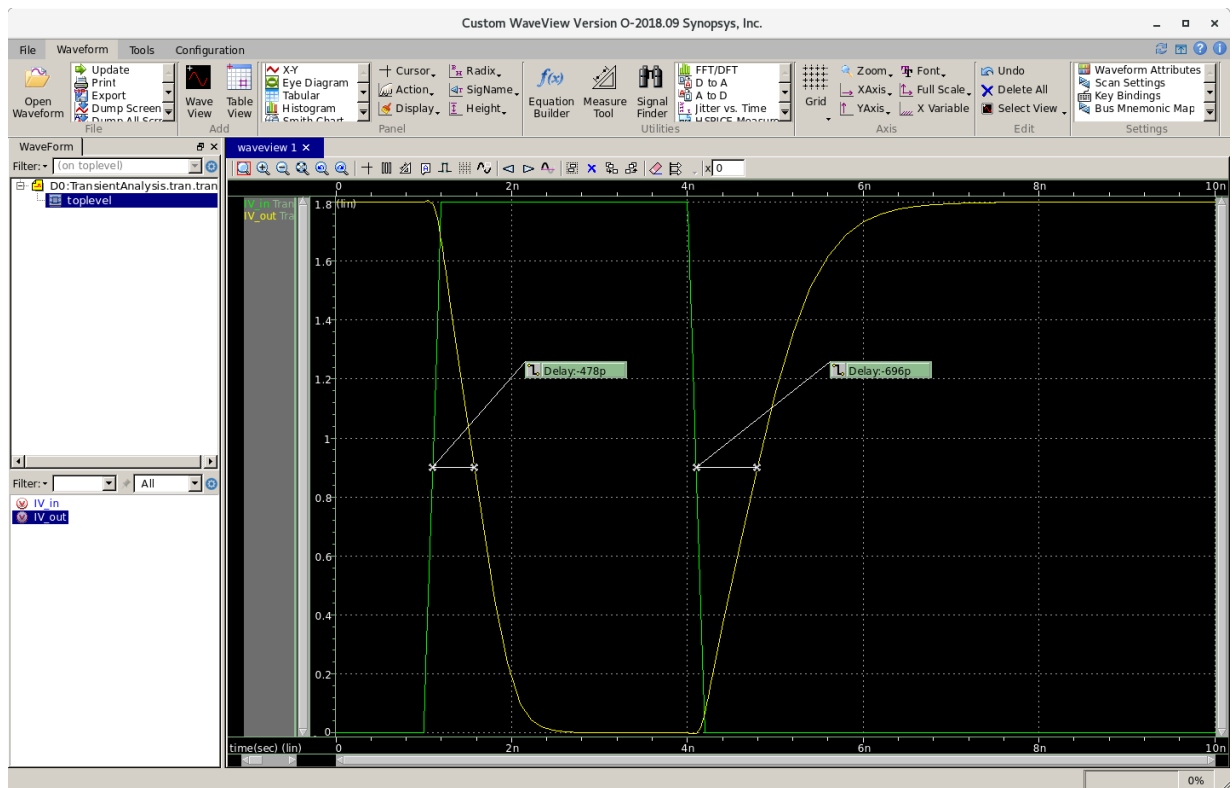

Figure 4. Measuring delays from Waveform window
- In the left hand side panel, go to Time Domain > Delay. Be sure “Signal” and “Ref Signal” are selecting the signals you are interested in measuring, in this case IV_in and IV_out. The delay level marks the 50% of VDD that we discussed above. On the “Edge type”, you will need to select edges of the measured signals. Since we are interested in both rising and falling edges, you will first select “Rise” on trigger and “Opposite” on Ref. Trigger. After you have selected this press “Apply”. A measurement will appear in the waveform window. Repeat this for the falling edge of the Trigger signal. Now, you have the rising delay as well as the falling delay displayed on the waveform viewer as shown in Figure 4.